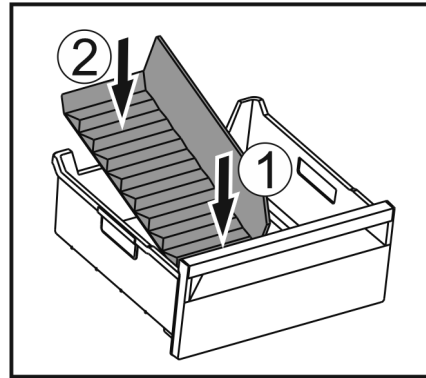

Fig. 184
- ▶ Insert the front part of the ice compartment divider. Fig. 184 (1)
- ▶ Lower the rear part of the ice compartment divider to the drawer bottom. Fig. 184 (2)